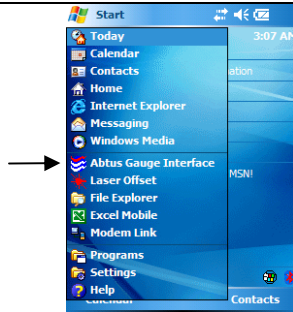

Figure 1
2. Load the Abtus Gauge Interface software from the Start Menu (as shown in Figure 1) – the software launches directly to the 'Connection' screen
2. Select 'Start Recording' from the 'Options' screen (Figure 1)
1. Select 'Start Recording' from the 'Options' screen (Figure 1)
1. Select 'Settings' from the options screen (Figure 1)